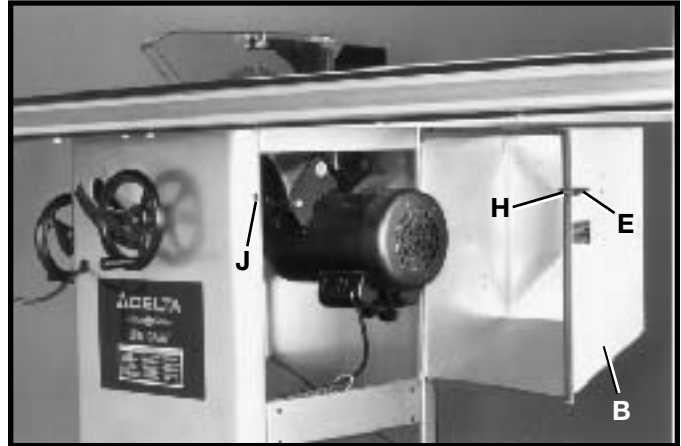

Fig. 43
4. With locking lever (E) Fig. 43, in the raised position, swing the free end of motor cover (B) toward the front of the cabinet until end (H) of locking lever enters and engages with the pre-drilled hole (J) in the cabinet.